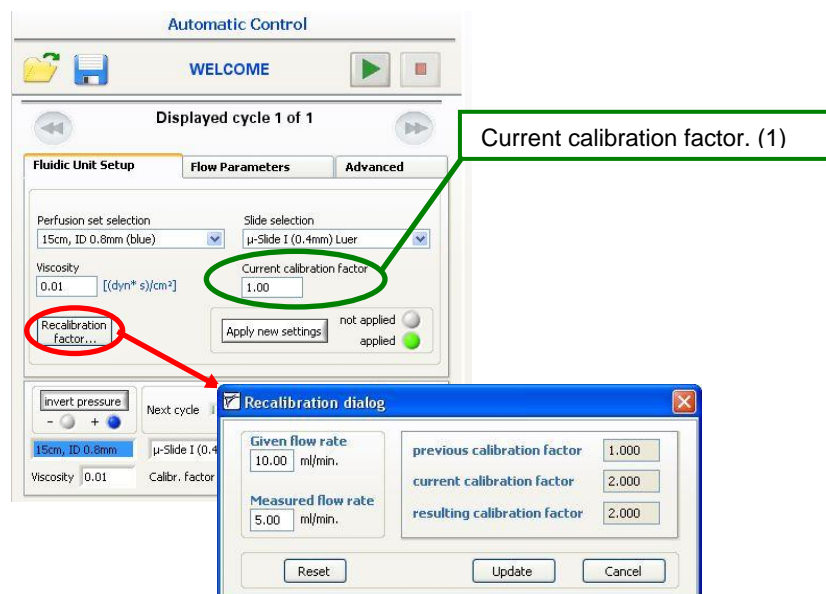

Figure 26: Recalibration Factor
This function is reached by clicking on the 'Recalibration factor...' button, after which the 'Recalibration dialog' box will appear (see Figure 26).
The current calibration factor is indicated in the register tab as control (1) in Figure 26. The default value is 1.00 (for water at 20°C).